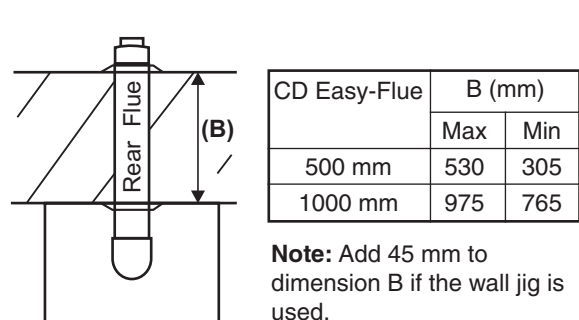

Fig. 5.7
- Determine the overall length (L) of flue required, (see Fig. 5.7) as follows:-
- When the flue length required is more than the maximum stated in Section 5.8, paragraph 1, refer to the table below and Figs 5.7 and 5.8.